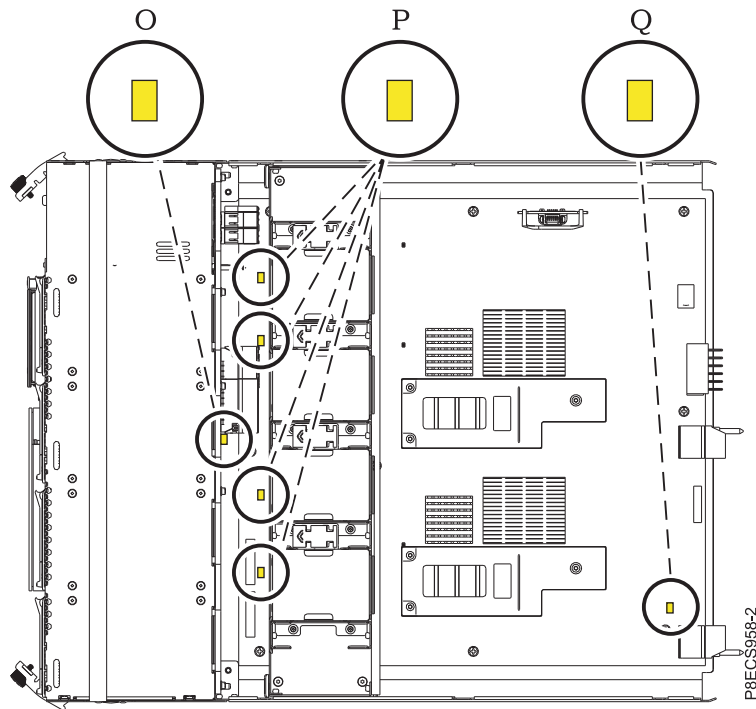

Figure 11. Service indicator LEDs
11. Look for the amber LED (O) of the disk drive backplane. See Figure 11.